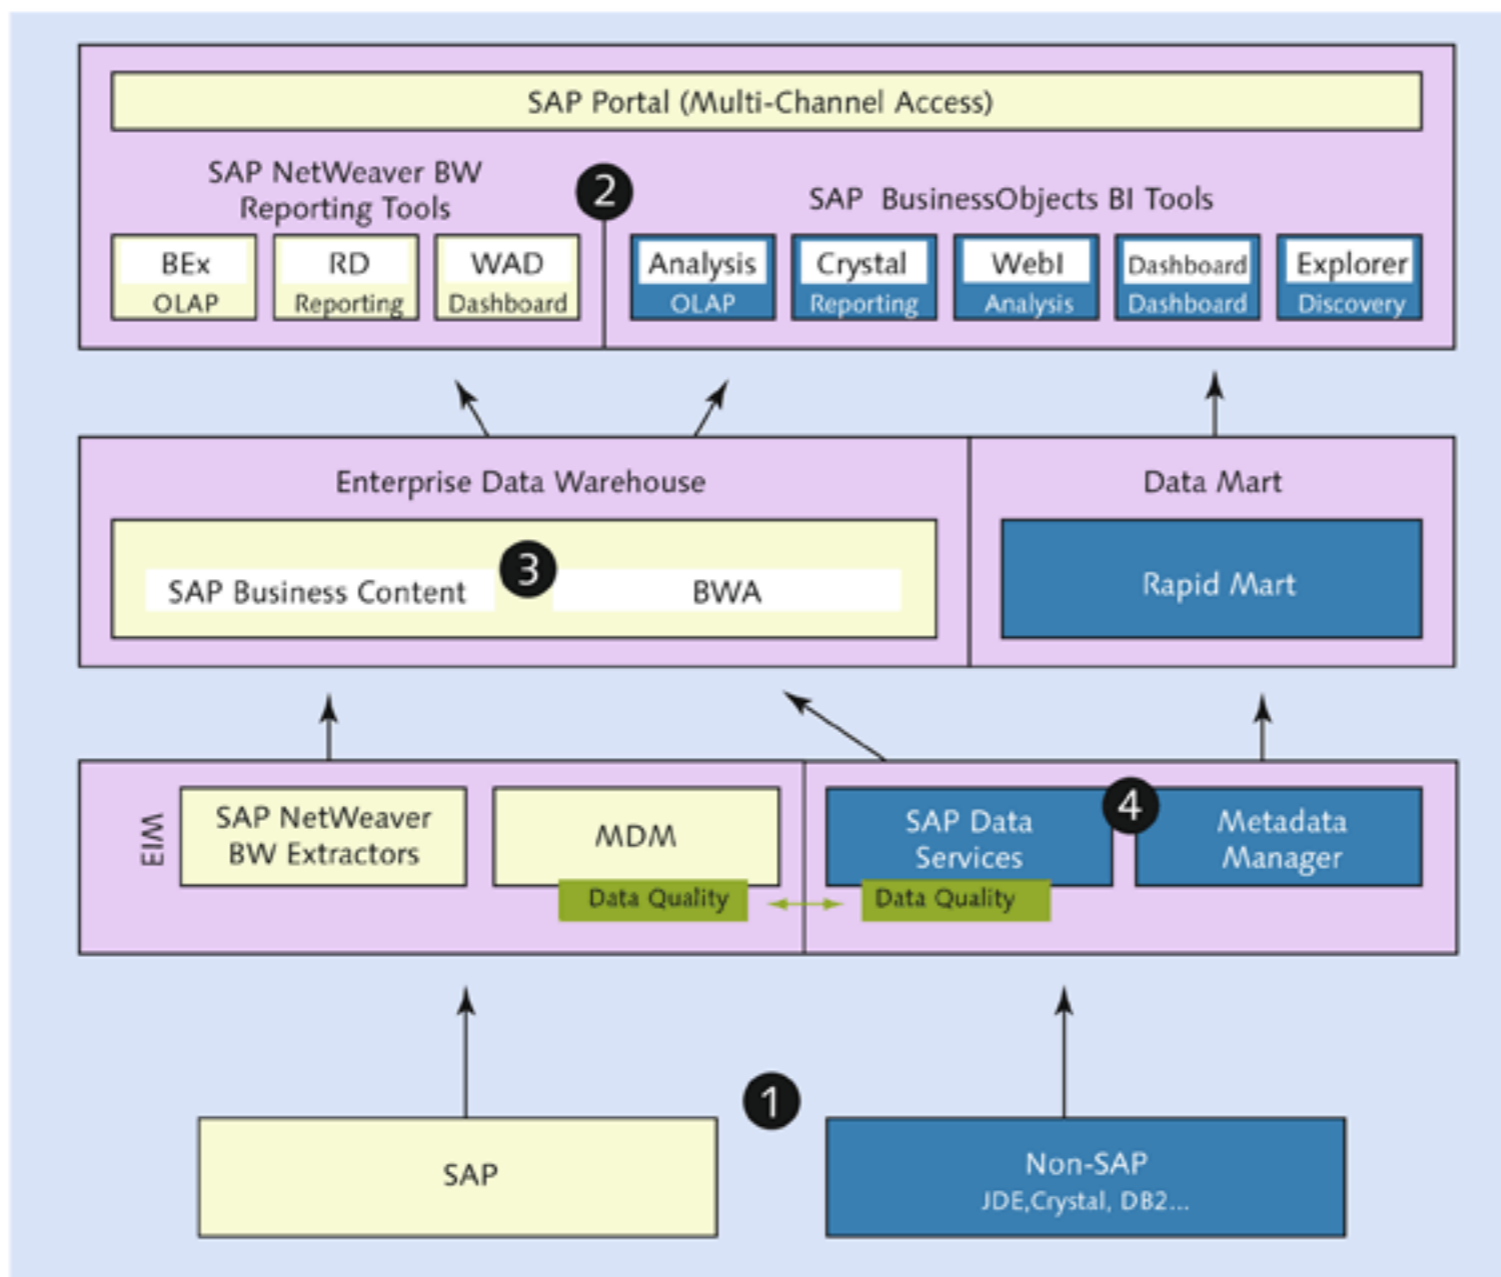

Figure 2.2 SAP NetWeaver BW Architecture and Positioning
- ▶ Tightly integrated and reliable data acquisition from all applications and business processes in the SAP Business Suite, including the ability to acquire data from heterogeneous sources (❶ of Figure 2.2).
- ▶ Business-driven models that help in rapid implementation through SAP Best Practices and rich predefined business content across most industry and business processes (❸ of Figure 2.2).
- ▶ State-of-the-art lifecycle management functionality at three levels (4 of Figure 2.2):